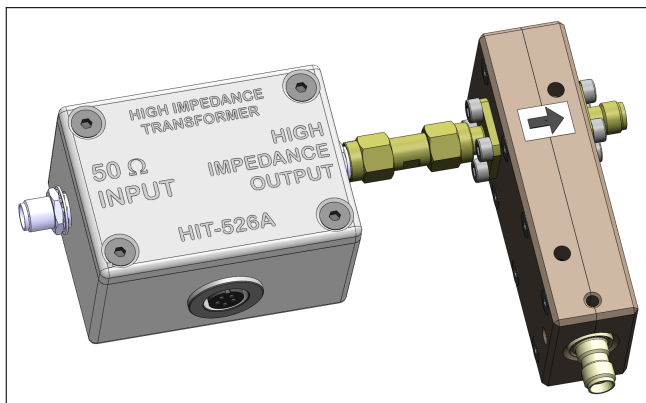

Figure 6: CS-CT1-3003B current sensor directly connected to the HIT-526A high impedance output.
- The current sensor CS-CT1-3003B should be mounted as close as possible to the HIT-526A high impedance output as shown in Fig. 6. Please check the correct direction of the CS-CT1-3003B (arrow) for positive current output signal polarity.